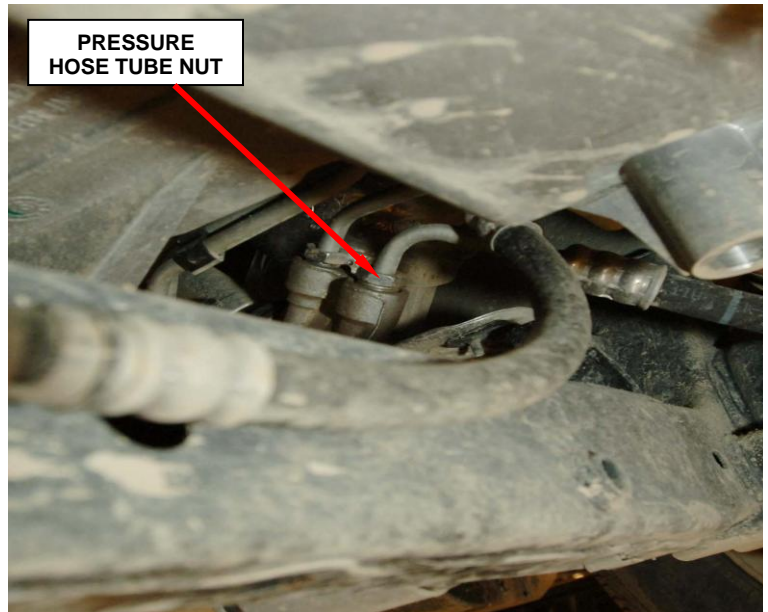

Figure 19 – Pressure Hose Tube nut
12. Unthread the power steering pressure hose tube nut from the steering gear (Figure 19).